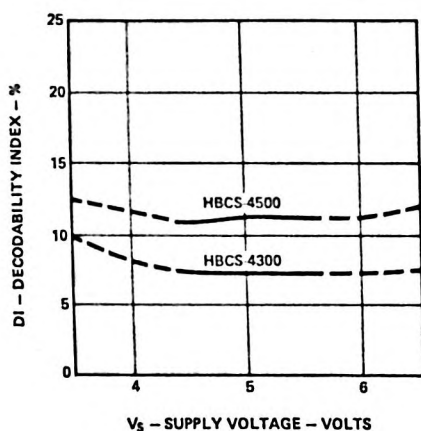

Figure 3. Decodability Index vs. Supply Voltage
- Shield must be properly terminated (see Figure 3). The human body is modeled by discharging a 300 pF capacitor through a 500 Ω resistor. No damage to the wand will occur at the specified discharge level.
The recommended logic interface for the wands is shown in Figure 3. This interconnection provides maximum ESD protection for both the wand and the user's electronics.